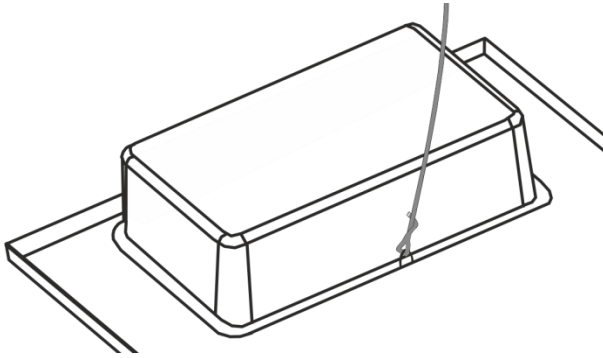

Figure 7: Securing the Speaker to a Ceiling Anchor Point
2. Secure the speaker by connecting the speaker support ring to an independent secure ceiling anchor point (see Figure 7) as appropriate. The anchor prevents the speaker from falling if the tile itself comes out or falls apart.